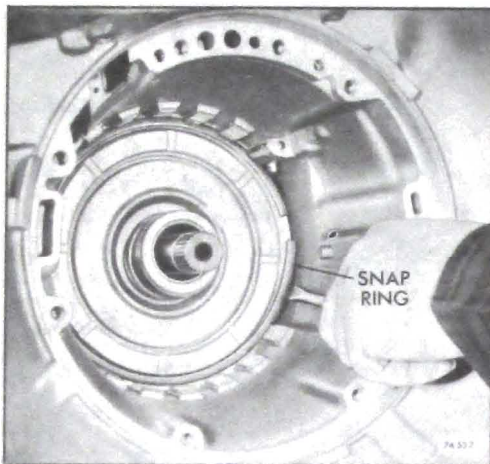

Figure 76-552
15. Remove center support to case retaining snap ring. See Figure 76-552.